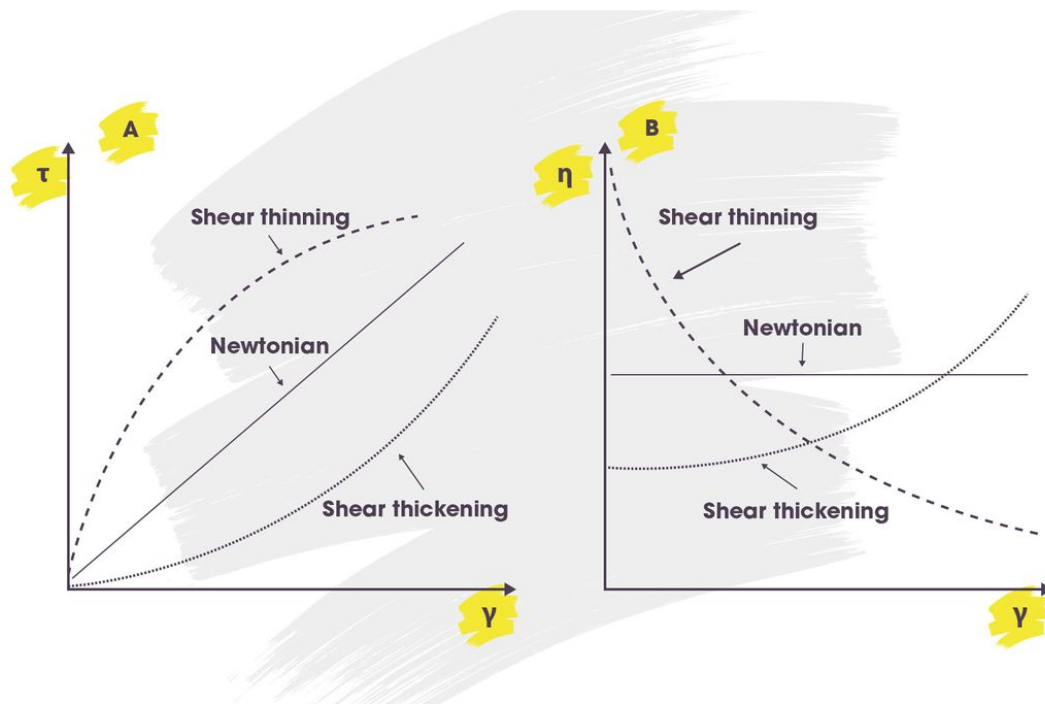

Figure 2: Flow curves (A) and viscosity curves (B) for Newtonian, shear-thinning and shear-thickening flow behavior. *Credit: Technology Networks.*
Shear-thinning fluids (or pseudoplastic fluids) are characterized by decreasing viscosity with increasing shear rate. **Shear-thickening fluids** (or dilatant fluids) suffer an increase of viscosity with the increasing shear rates.47 In Figure 2, it is possible to visualize the flow curves (A) and viscosity relation with shear rate (B) for the different types of fluids.
Rotational tests, usually performed with a cone plate or concentric cylinders, work by rotating the geometry over a fixed plate or in a vessel containing the sample (Figure 3). Due to the greater surface area and higher contact with the samples, concentric cylinders are most suited for low viscosity fluids. In contrast, cone plate geometries are more suited for higher viscosity samples, with the additional advantage of creating a uniform shear rate across the sample. This is achieved because the shear rate is directly proportional to the angular velocity of the rotating cone and remains constant regardless of the radial position due to the cone angle. By controlling the process via rotational speed or shear rate, it is possible to study processes that are dependent on flow velocity or volume flow rate. On the other hand, by controlling the torque or shear stress, it is possible to study force-dependent applications.² With these measurements, it is possible to obtain the flow and viscosity curves of a fluid (see Figure 2).